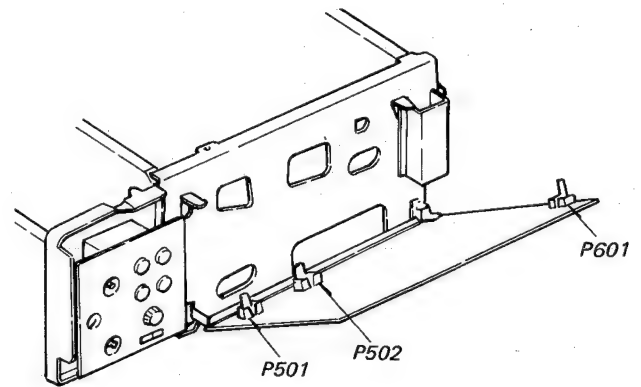

Fig. 5-72 Servo and Logic Circuit Board PW-2110.
3. Disconnect the 3-pin connector P501, 4-pin connector P502, and 3-pin connector P601 from the Servo and Logic Circuit board PW-2110 (see Fig. 5-72).